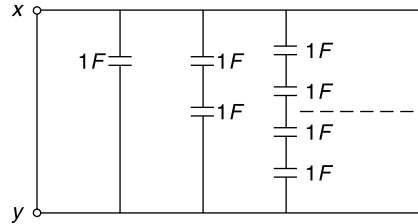

Fig. 2.34 Capacitance network of Ex. 2.22
2.22 Find the equivalent capacitance across XY (Fig. 2.34).